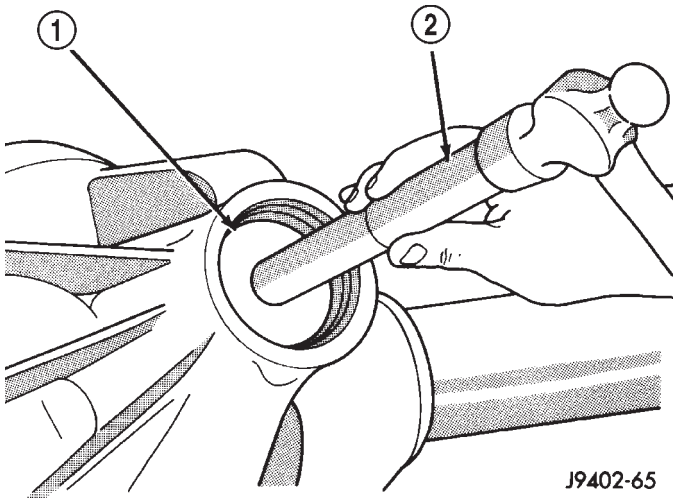

Fig. 44 Pinion Outer Bearing Cup Installation
(3) Apply Mopar® Door Ease, or equivalent, stick lubricant to outside surface of front pinion bearing cup. Install the bearing cup with Installer D-144 and Handle C-4171 (Fig. 44).